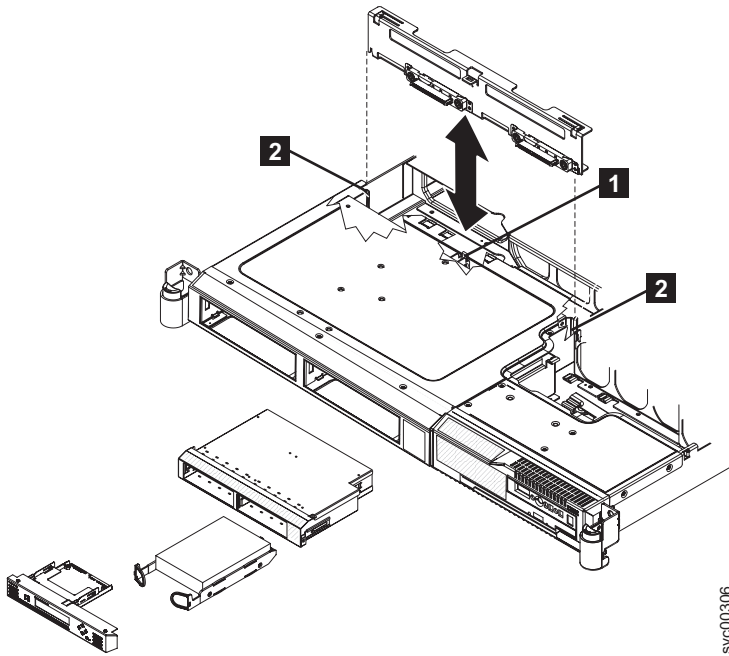

Figure 118. The SAN Volume Controller 2145-8G4 SATA disk drive and backplane
9. Press the locking tab **1**, which is shown in Figure 118, and lift the backplane out of the node slightly. Disconnect the power cable and remove the backplane.